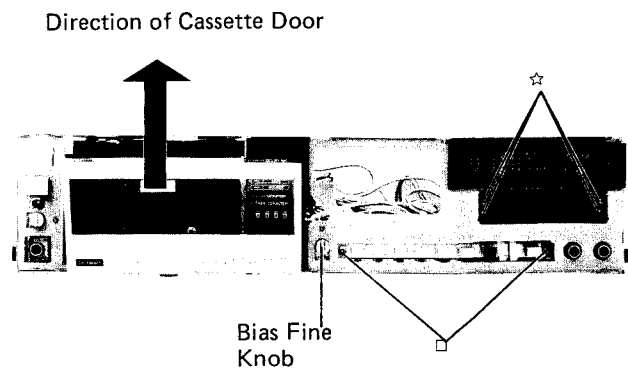

Figure 7
- (1) After removal of front panel, remove four screws marked "☆" as shown in Figure 7.
- (2) Disconnect all wires from the REC. VR.
- (2) Remove bias fine knob as shown in Figure 7.
- (1) Lift up the cassette door in the direction of the arrow in Figure 7.